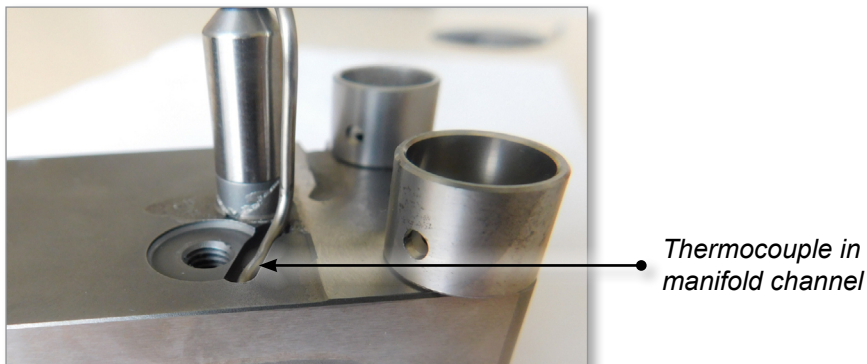

Figure 5-89 Bend thermocouple
2. Bend the thermocouple back 90° to sit in the manifold channel. See Figure 5-89.